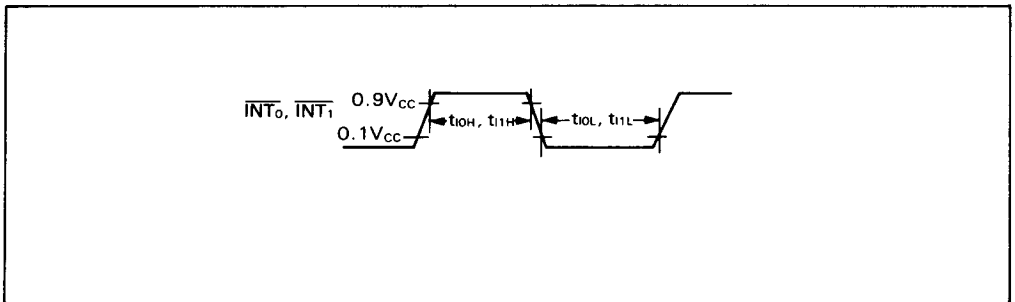

Figure 53. Interrupt Timing
4. See figure 53. The unit t_{cyc} is applied when the MCU is in the standby mode or active mode.
6. See figure 53. The unit t_{SUBcyc} is applied when the MCU is in the watch mode or sub-active mode. $t_{SUBcyc} = 244.14 \mu s$ (when 32.768 kHz crystal oscillation is used.)